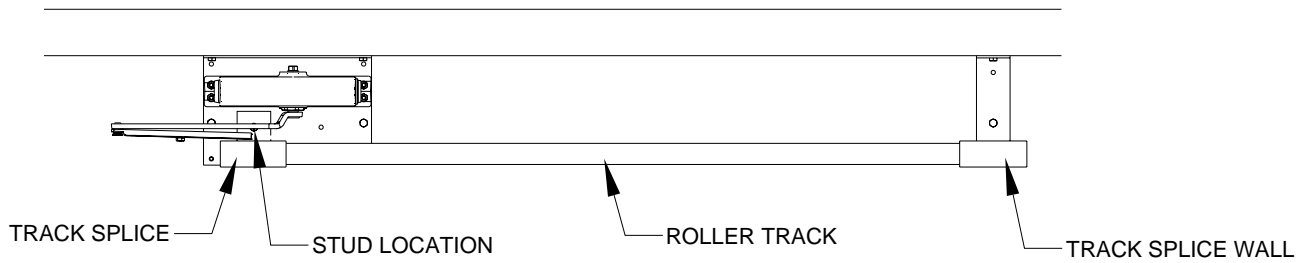

FIG. 3
1. Place the track splice plate on the threaded stud located on the closer mount plate as shown in Fig. 3 and secure with a ¼-20 nylon insert nut. The closer arm will need to be held in the open position in order to install this nut.